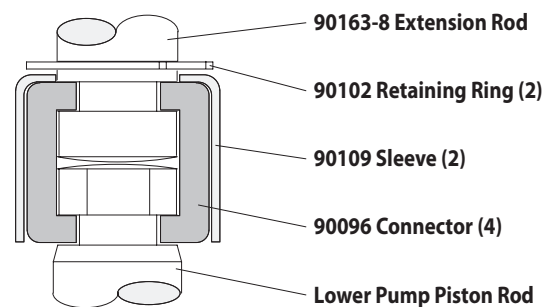

Figure 2
4. Using e-ring pliers, slide the retaining ring up far enough to allow the sleeve to move upward and release the two connectors (see figure 2). Lay the air motor aside.